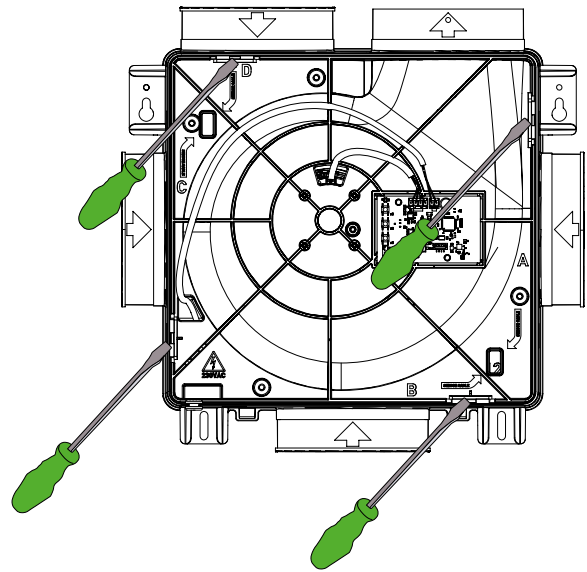

Figure 12: detaching the motor plate
2. Disconnect the motor plate by unclipping the 4 clamps. To do this, slide a flat screwdriver behind the clamp and tilt it back slightly (approx. 5mm) so that the clamp is released from the opening in the casing (see Figure 11: open the casing and Figure 12: remove the motor plate).